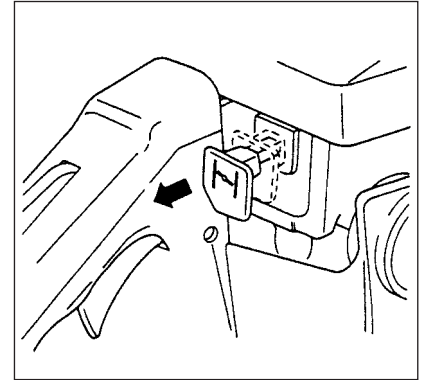

Fig. 2-3
2. Pull choke knob fully to choked position. This will automatically lock the throttle in starting position. (Fig. 2-3)